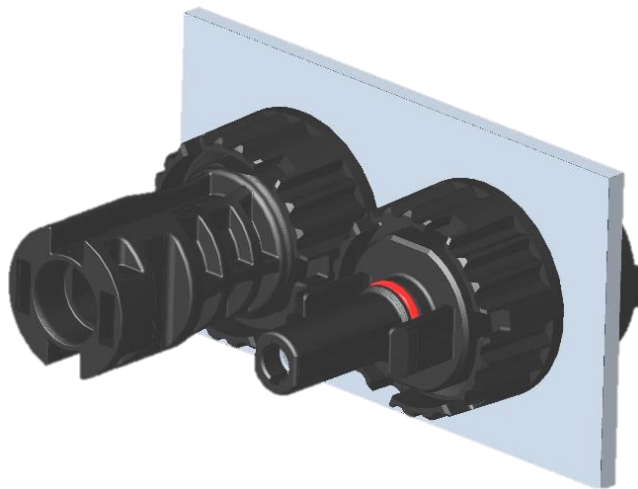

Figure 3
- ✧ 安装公/母面板连接器时，推荐用 2.0 Nm 的扭矩锁紧螺母。具体情况，需要由终端用户根据不同的面板验证合适的扭矩。(如图 3)
When installing the male or female panel connector, it is recommended to use 2.0 Nm torque lock nut. The appropriate torque has to be verified in the end use according to the respective housing. (Fig.3)